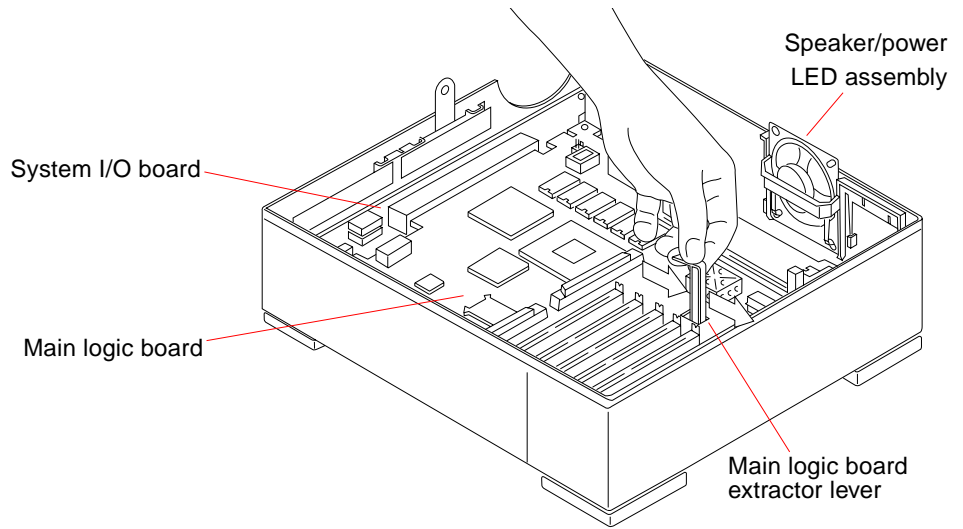

FIGURE 11-15 Extracting the Main Logic Board
- a. **Pull the MLB (main logic board) extractor lever toward the front of the system unit to disconnect the main logic board from the system I/O board (see FIGURE 11-15).**